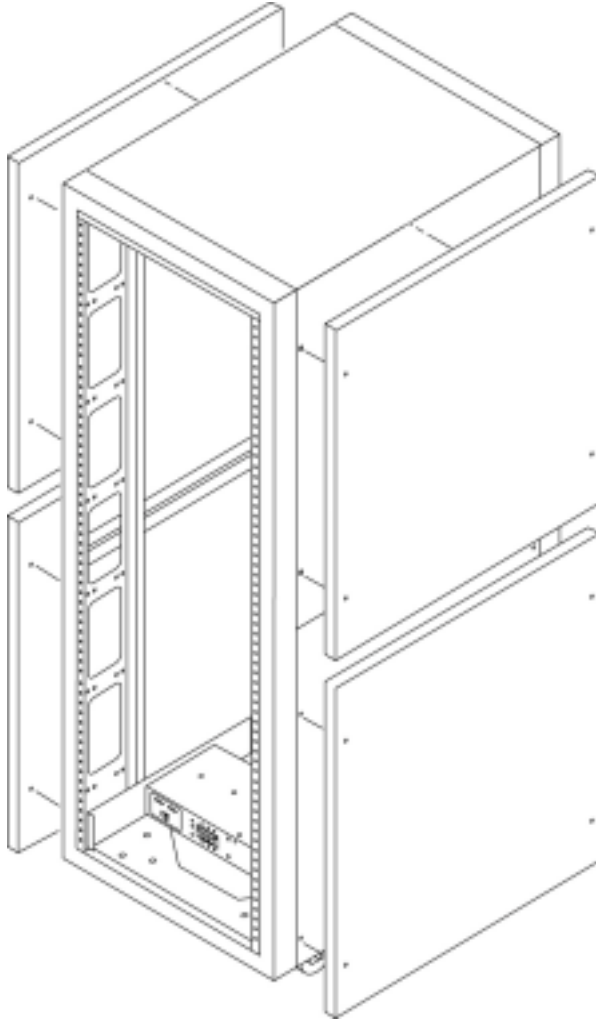

FIGURE 4-1 Removing and Replacing the Side Panels
- **Use an Allen wrench to loosen the four 1/4-inch shoulder screws that fasten the panel to the system, and then remove the panel from the system (FIGURE 4-1). Repeat step for each panel.**
2. **Use an Allen wrench to tighten the four 1/4-inch shoulder screws to fasten the panel to the system (FIGURE 4-1).**